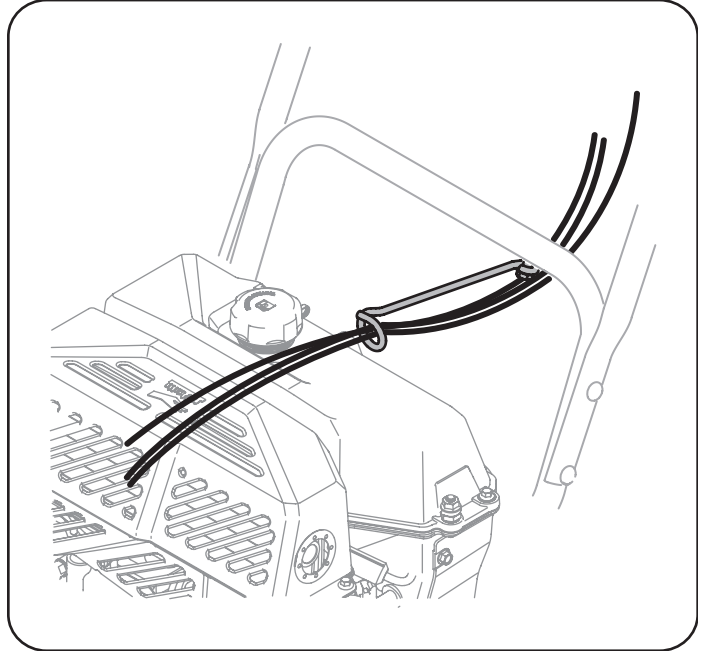

Figure 11
10. Check that all cables are properly routed through the cable guide on the engine. See Figure 11.